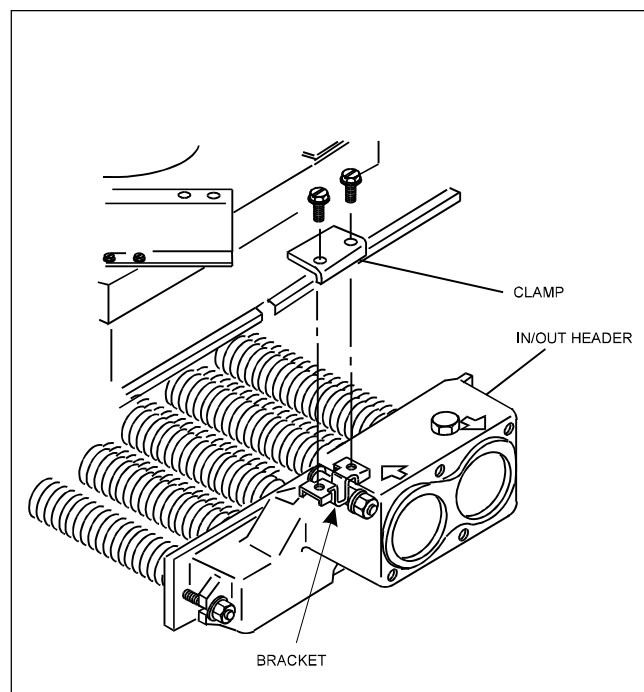

Figure 11. Flue Collector Holddown Brackets
7. Remove the screws securing the two flue collector holddown clamps and remove the clamps (see Figure 11). Remove flue collector.